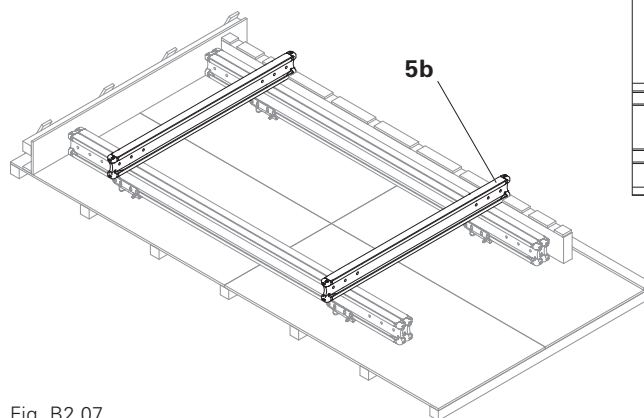

Fig. B2.07
4. Position 2x Girder VT 20K (5b) as cross beams symmetrically and orthogonally on the Girders VT 20K (5a), and centrally align on the Table Heads TK (26). (Fig. B2.07)